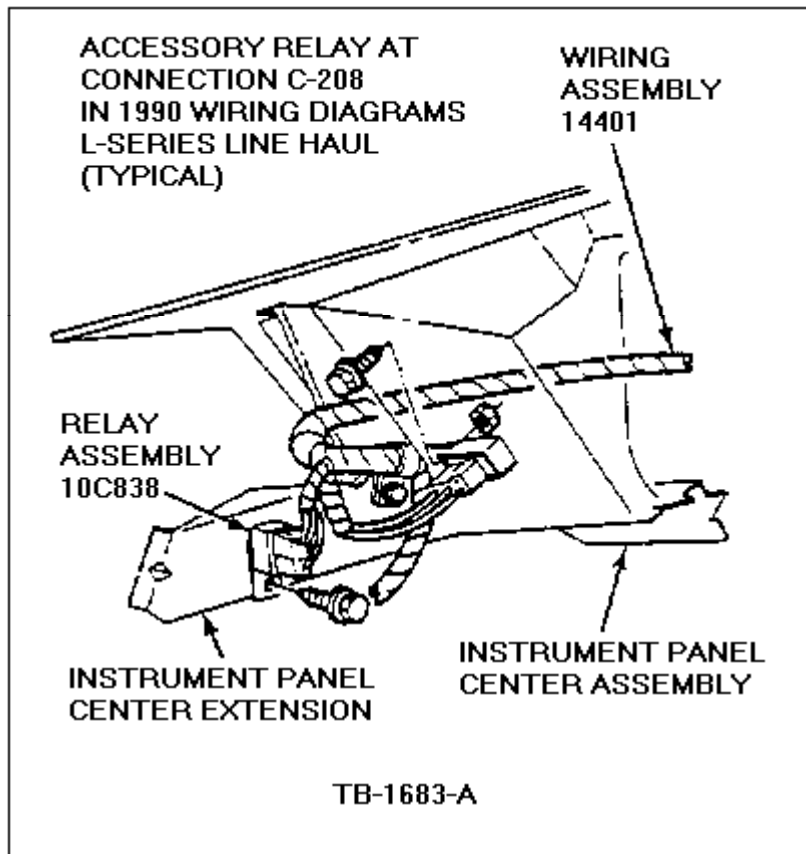

Figure 2 - Article 90-12-14
2. Look for self-grounding relays that may have loose mounting screws. This condition, shown in Figure 2, can cause flickering lights and an erratic performing/inoperative radio or blower.